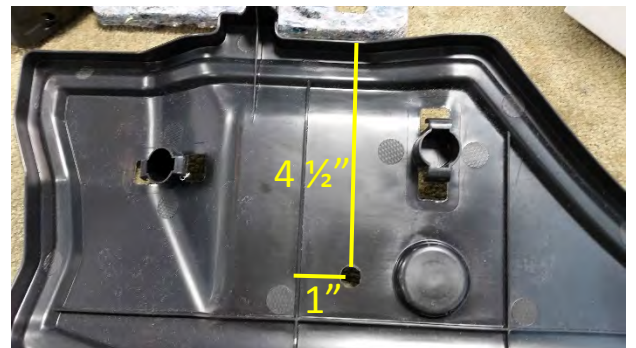

Figure 20
27. Mark location for passenger side light 4 1/2" from the back edge of the No. 2 panel and 1" from the rib, as shown in Figure 20.